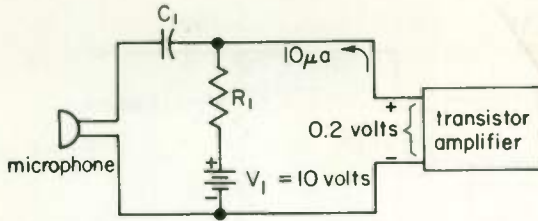

Fig. 25
1. Figure 25 shows how a resistor is used to replace an inductor in the input circuit to a transistor amplifier. The supply V_1 is 10 volts, but only 0.2 volt is needed to bias the input to the amplifier. The resistor R_1 must then drop 10 volts - 0.2 volt = 9.8 volts. If the transistor amplifier draws $10 \mu a$ through R_1 , then R_1 must have a value of (a) _____ to produce the 9.8-volt drop. Does this value of R_1 present a high impedance to the a-c input signal from the microphone passing through C_1 ? (b) _____ .